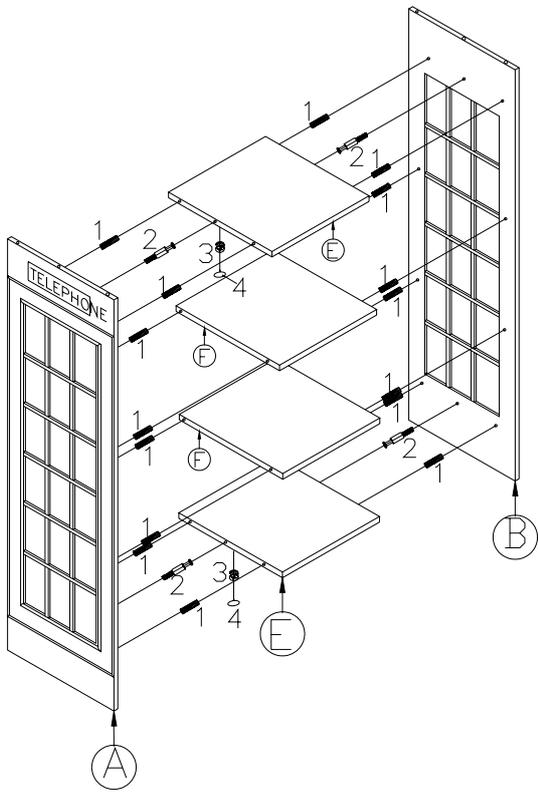

FIGURE 1
3. INSERT WOOD DOWELS (1), CAM-BOLTS (2) INTO PREDRILLED HOLES ON INSIDE OF LEFT AND RIGHT SIDE PANELS (A, B) AND FIT INTO CORRESPONDING HOLES ON ENDS OF SHELVES (E, F). INSERT CAM-LOCKS (3) INTO BIG HOLES ON UNDERSIDE OF SHELVES (E) WITH SLOT FOR SCREWDRIVER FACING OUTWARD. ROTATE CAM-LOCKS (3) CLOCKWISE TO SECURE CAM-BOLTS (2). PUSH COVERS (4) INTO CAM-LOCKS (3). AS FIGURE 1 SHOWN.